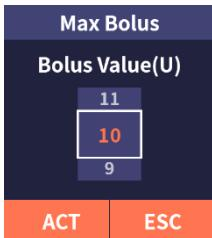

Figure 4.11
(3) Click “Max Bolus” to open the setting interface (as shown in Figure 4.11). Scroll up and down to set the max bolus. Click “ACT” to save and exit, or click “ESC” to exit without saving.